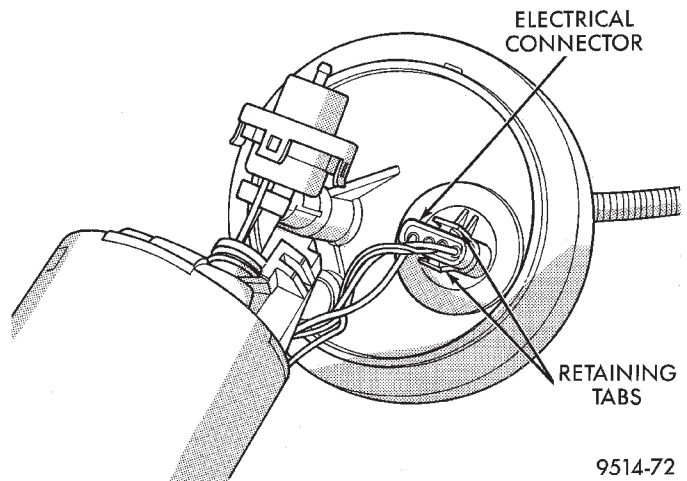

Fig. 21 Fuel Pump/Level Sensor Electrical Connector
- (1) Depress retaining tab and remove the fuel pump/level sensor connector from the **BOTTOM** of the fuel pump module electrical connector (Fig. 21).